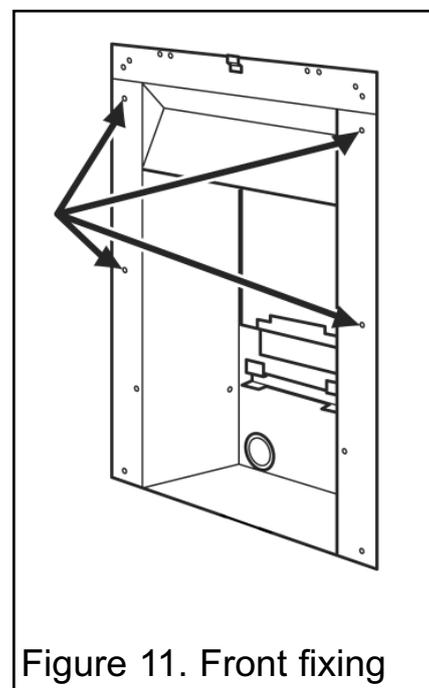

Figure 11. Front fixing
**3.** Mark the fireplace front surround through the four fixing holes in the side flanges of the convector box (See figure 11).